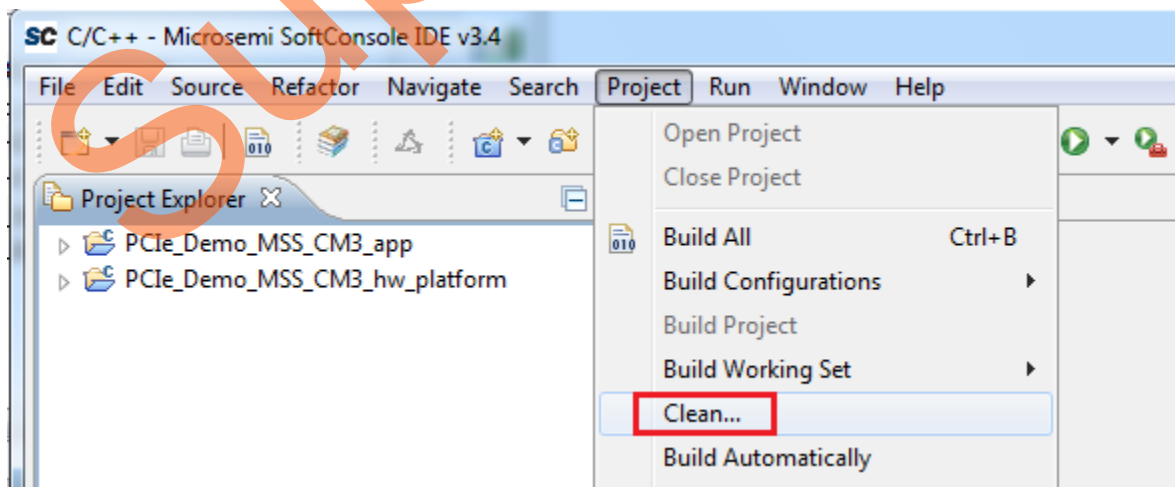

Figure 35 • Building the SoftConsole Project
10. To clean and build the project, select **Project > Clean** as shown in Figure 35.